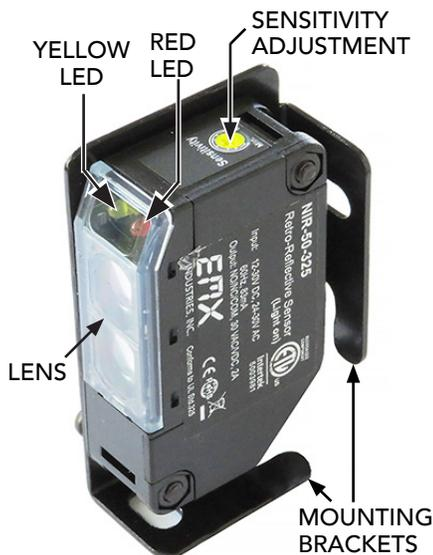

FIGURE 1-2: EMX NIR-50 325 FEATURES
3. Adjust sensivity on top of unit to maximum (FIGURE 1-2).
- Hold reflector 3 feet in front of photoeye and verify both red and yellow LEDs (FIGURE 1-2) light up. While moving backward to the reflector mounting location, ensure the reflector is continually aligned (red and yellow LEDs on). Move reflector up, down, left or right to keep reflector in center of the signal path.